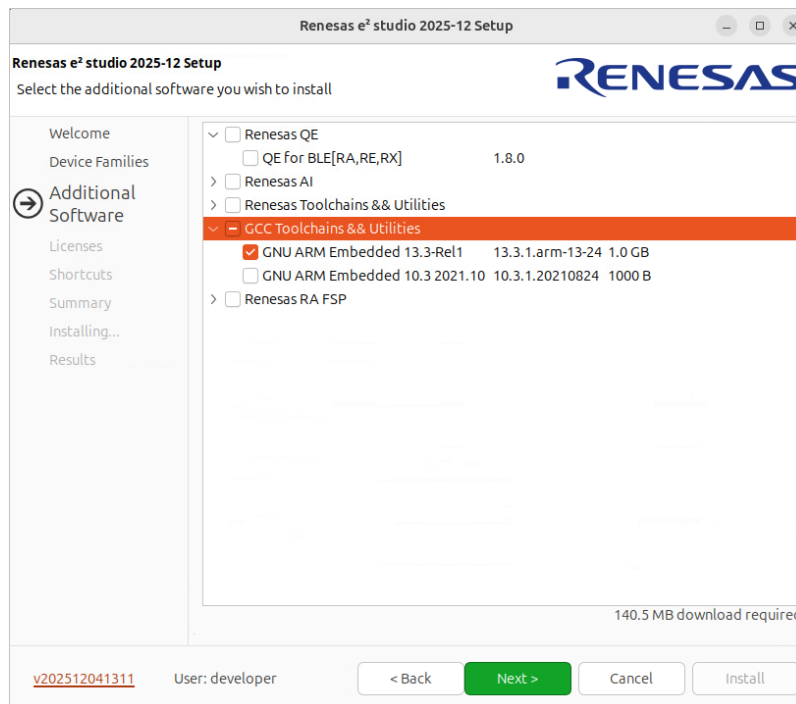

Figure 73. Device families
4. On the **Additional Software** step, expand **GCC Toolchains and Utilities**, select the **GNU ARM Embedded 13.3** checkbox, click **Next > Install**, see Figure 73.